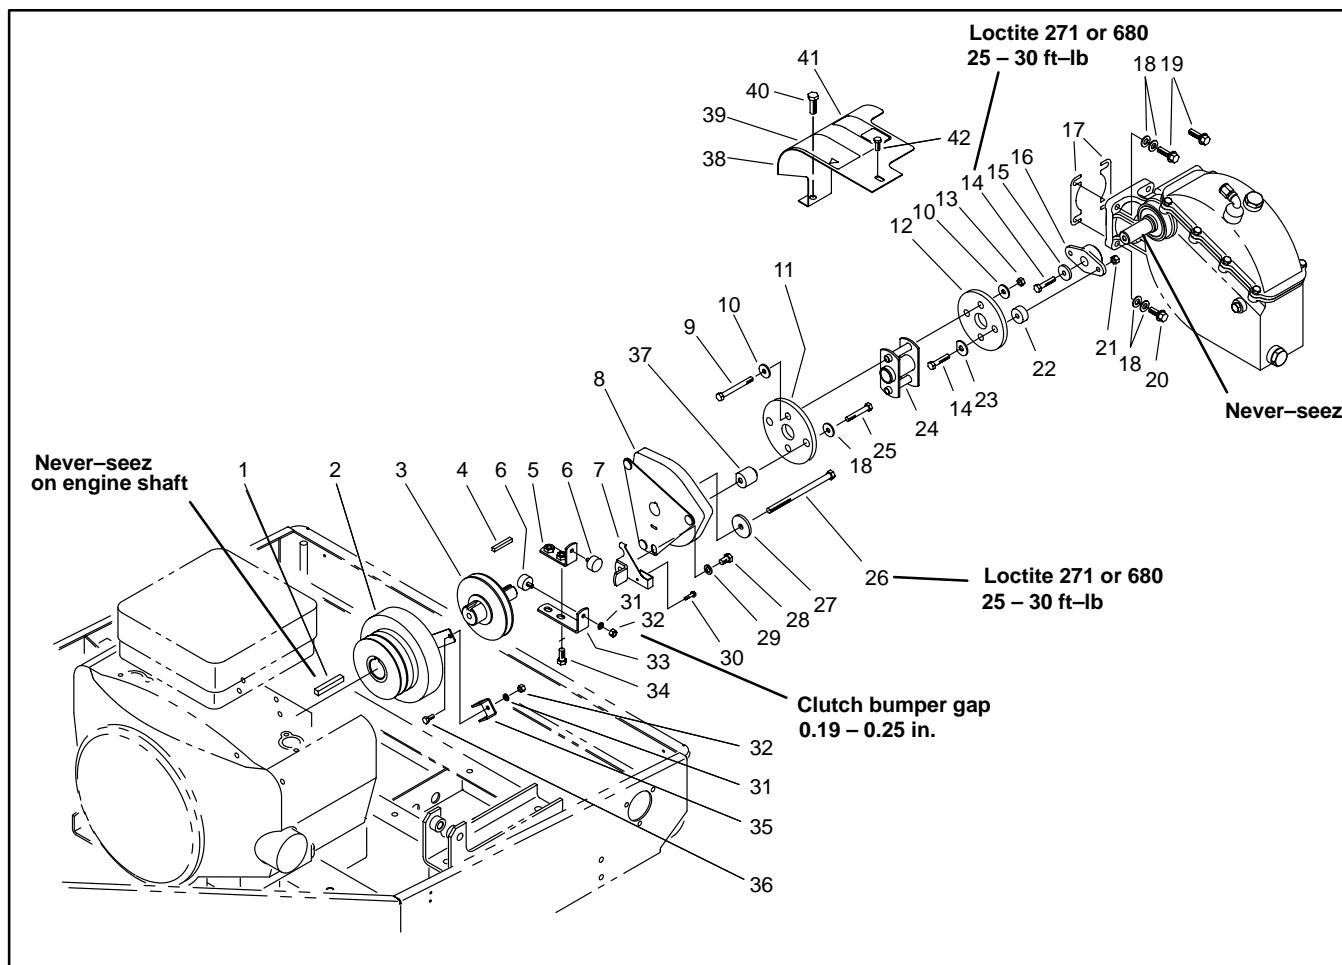

Figure 30
Drive Coupling and Clutch Removal and Installation (Fig. 30)
4. Remove clutch stops (Fig. 30, Item 5) and clutch retainer bracket (Fig. 30, Item 39).